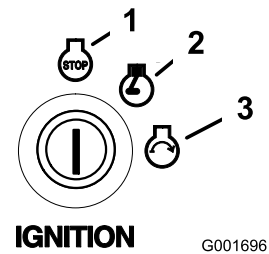

Figure 14
6. Turn the ignition key to Start (Figure 14). When the engine starts, release the key.
4. Turn the ignition key to the off position and remove the key (Figure 14).